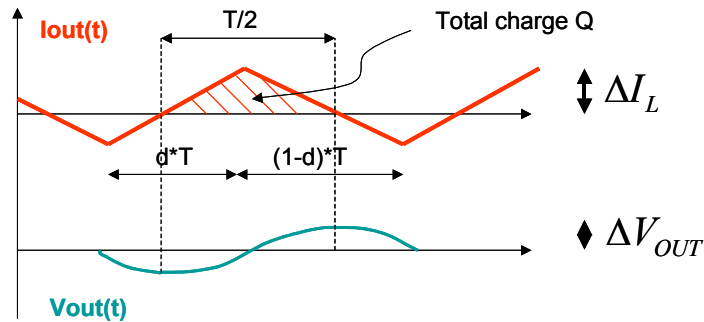

Figure 9. Output Capacitor Current
**Figure 9** shows the current through the output capacitor (red), and the associated output ripple voltage (green):.
From **Figure 9**: